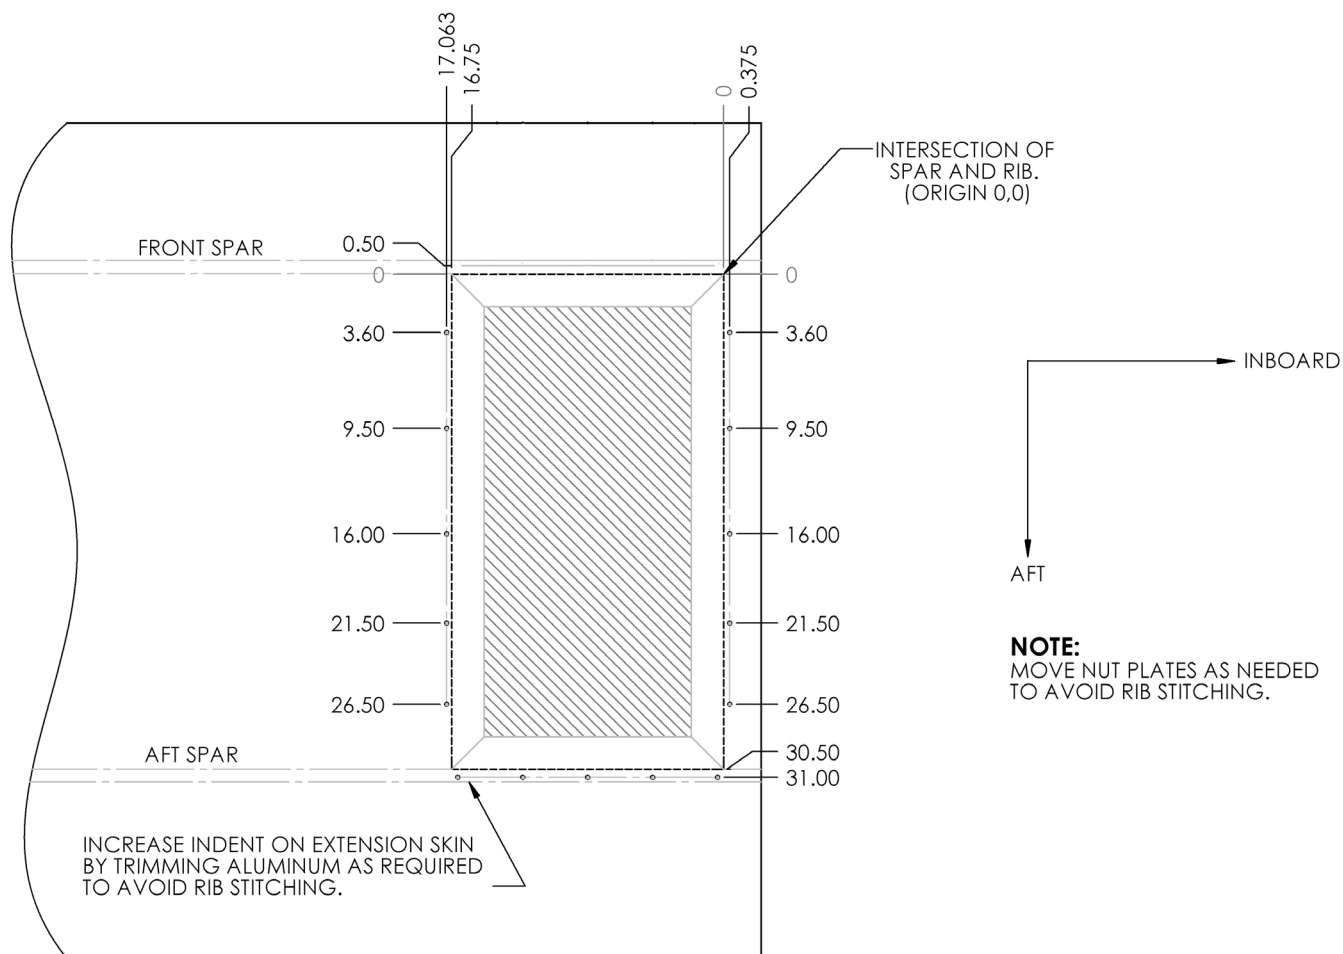

Figure 3a – Tank Bay Hole Locations (All Tolerances within 1/8”)
10. Mark out the hole locations for the inboard and outboard sides of the tank bay lid with reference to Figure 3a and according to the following: